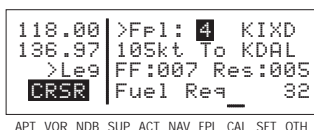

Figure 4-64
- Turn the right outer knob clockwise to place the cursor over the flight plan number. As you cycle through the flight plans, the first and last waypoints of each flight plan will be displayed (figure 4-64).